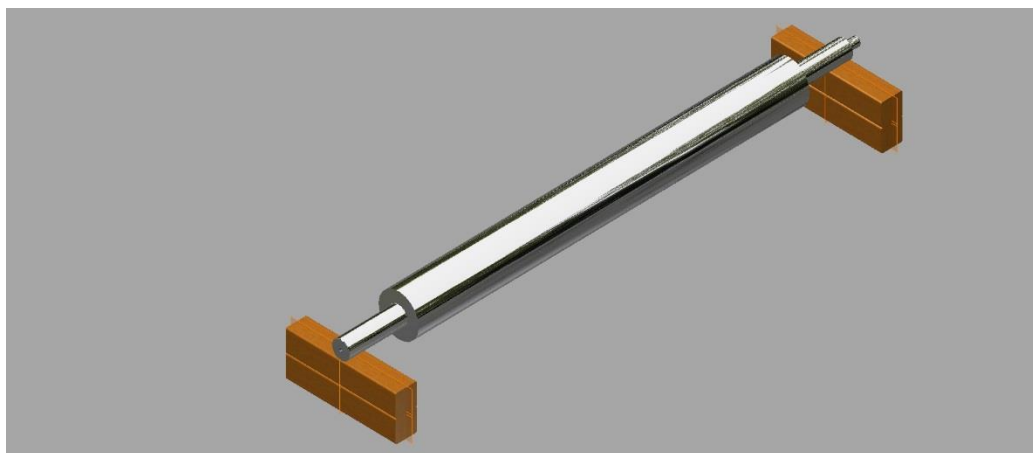

Figure 20
14. Rotor should appear as in **Figure 20**.